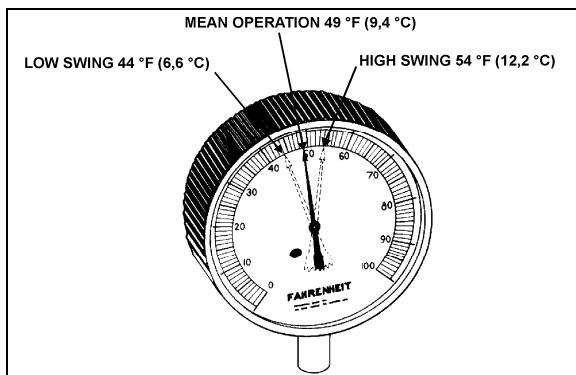

FIGURE 37: HIGH & LOW SWING TEMPERATURE AT REMOTE BULB 22047
6. Check approximately 5 readings of pressure at 2-minute intervals and convert to temperature using the temperatures & pressures table (page 35). Likewise check the temperature reading at the remote bulb at the same 2-minute intervals and record the low and high swing readings of the needle (refer to Fig. 37).
Example of readings taken at fig. 37: